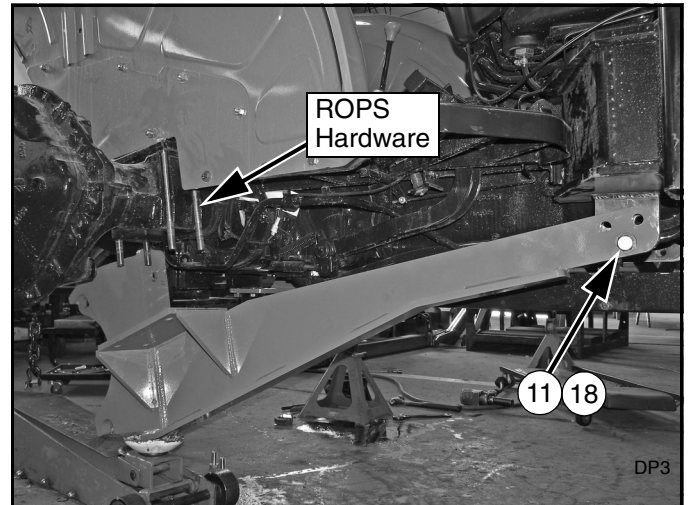

Figure 7. Right Tractor Bracket to Loader Mount
1. Place right tractor bracket (1) under right side of tractor. Use a hydraulic floor jack to help raise and hold tractor bracket in position.
2. Attach right tractor bracket (1) to right loader mount or right backhoe bracket (New Holland Mount) using one hex flange screw (11) and hex flange nut (18). See Figure 7.